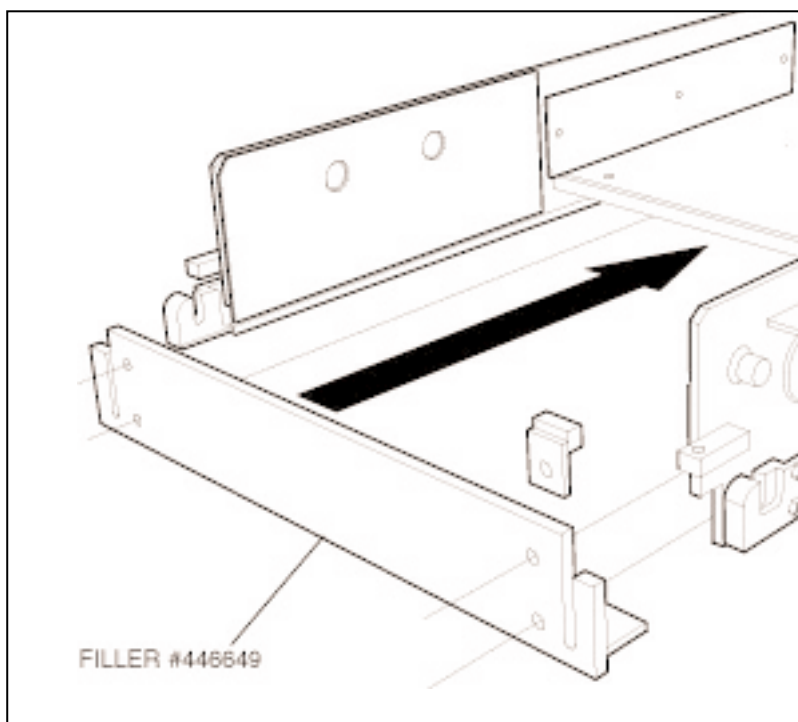

Figure 19.15 ATTACHING FILLER TO FEEDBOX.
19.2.6 Attach filler #446649 to feedbox (see figure 19.15). **Note:** This is for 18.047" molds only).